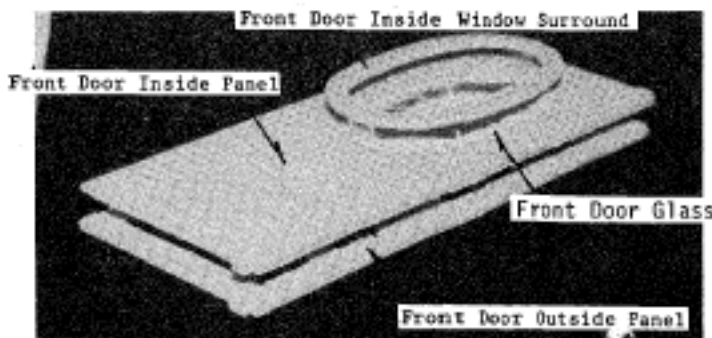

Figure 21
3. Lay the outside front door panel on the table with the good side down. Glue the Inside Panel to the Outside Panel. Make sure the pivot pins on the panels line up on the same side. See Figure 21.